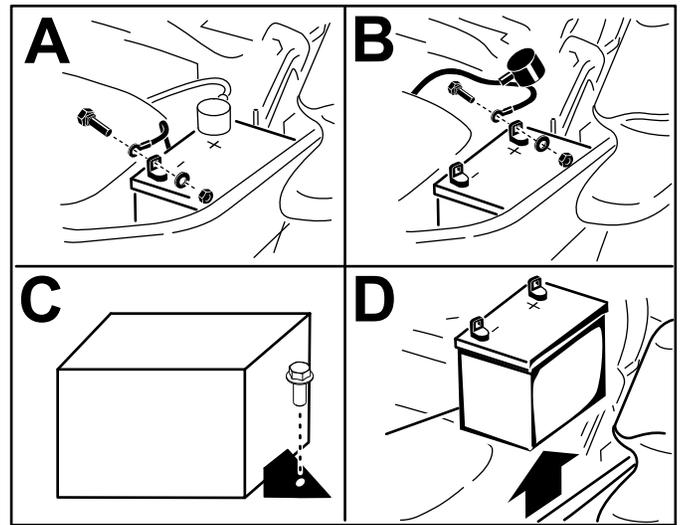

Figure 63
5. Remove the battery as shown in Figure 63.